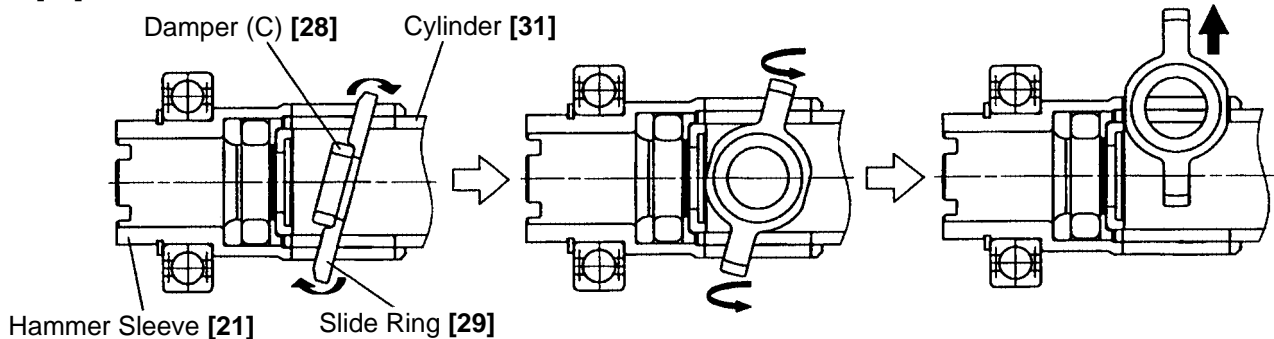

Fig. 12
(3) Disassembly of the cylinder and the hammer sleeve
Remove the Second Hammer [23] from the Hammer Sleeve [21] side. As shown in Fig. 12, tilt the assembly of the Slide Ring [29] and Damper (C) [28] slightly with respect to the shaft of the Cylinder [31] and turn it 90° on the protrusion of the Slide Ring [29] then remove it from the slot of the Cylinder [31] and the Hammer Sleeve [21]. Remove the four Needle Pins D6 x 6 [30] to separate the Cylinder [31] from the Hammer Sleeve [21].